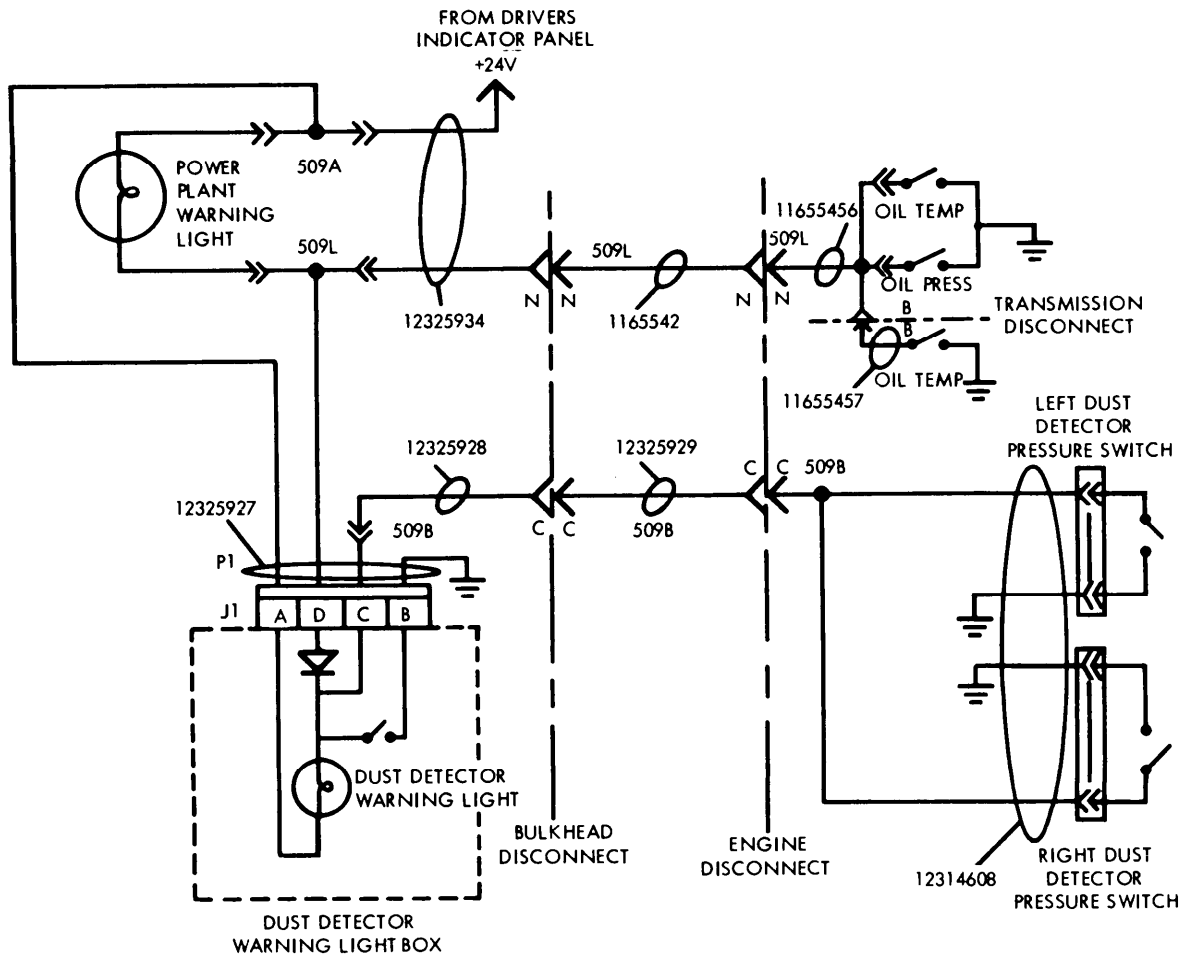

Figure 6-2. Dust detector schematic diagram.
| 9. | POWERPLANT WARNING LIGHT ON, DUST DETECTOR WARNING LIGHT OFF, DUST DETECTOR PRESSURE SWITCH(ES) TRIPPED (FIG. 6-2). | <p>Step 1. Set MASTER BATTERY switch to ON.</p> <p>Step 2. Press DUST DETECTOR WARNING LIGHT lamp to test.</p> <p>a. If light comes on, replace dust detector warning light box (para. 6-17g, M60A3; 6-17h, M728; 6-17i, M48A5AVLB, M60A1AVLB).</p> <p>b. If lamp does not come on, go to step 3.</p> <p>Step 3. Replace DUST DETECTOR WARNING lamp.</p> <p>a. If lamp operates, discard defective bulb.</p> <p>b. If lamp does not operate, go to step 4.</p> <p>Step 4. Set MASTER BATTERY switch to OFF.</p> <p>Step 5. Disconnect connector P1 of harness 12325927 from dust detector warning light box.</p> <p>Step 6. Set MASTER BATTERY switch to ON. Check for 24 vdc between pins A and B of connector P1.</p> <p>a. If 24 vdc exists, replace dust detector warning light box (para. 6-17g, M60A3; 6-17h, M728; 6-17i, M48A5AVLB, M60A1AVLB).</p> <p>b. If 24 vdc does not exist, replace dust detector warning light wiring harness 12325927 (para 6-17f).</p> |
| 10. | DUST DETECTOR PRESSURE SWITCH(ES) TRIPPED, BUT DUST DETECTOR WARNING LIGHT AND POWERPLANT WARNING LIGHT DO NOT COME ON (FIG. 6-2). | <p>Step 1. Set MASTER BATTERY switch to OFF.</p> <p>Step 2. Disconnect leads of engine wiring harness 12314608 (circuit 509B) from right and left dust detector pressure switches. Check continuity across terminals of each pressure switch connector.</p> <p>a. If continuity across terminals does not exist, replace pressure switch (para. 6-17b).</p> <p>b. If continuity across terminals does exist, check continuity from connector pin B to ground lead of harness 12314608.</p> <p>c. If ground lead continuity does not exist, replace harness 12314608 (para. 6-17C).</p> <p>d. If ground lead continuity exists, check continuity of engine wiring harness 12314608 (circuit 509B) from pin C of engine connector to pin A of pressure switch connector.</p> |
| 10. DUST DETECTOR PRESSURE SWITCH(ES) TRIPPED, BUT DUST DETECTOR WARNING LIGHT AND POWERPLANT WARNING LIGHT DO NOT COME ON (FIG. 6-2) - Continued | | <ul style="list-style-type: none"> e. If continuity does not exist through engine wiring harness 12314608, replace harness (para. 6-17c). f. If continuity exists through engine wiring harness 12314608, check continuity through engine-to-bulkhead lead 12325929 (circuit 509B) from engine connector socket C to bulkhead connector pin C. g. If continuity does not exist, replace engine to bulkhead lead assembly 12325929 (circuit 509B (para. 6-17d). h. If continuity exists through engine-to-bulkhead lead 12325929, disconnect hull intermediate lead assembly 12325928 (circuit 509B) from short lead of dust detector warning light harness at dust detector warning light box. Check continuity through lead 12325928 from pin C at bulkhead to short lead connector. i. If continuity does not exist, replace hull intermediate lead 12325928 (circuit 509B (para. 6-17e). j. If continuity exists through hull intermediate lead, go to step 3. <p>Step 3. Disconnect connector P1 of harness 12325927 from dust detector warning light box. Check continuity through circuit 509B of harness 12325927.</p> <ul style="list-style-type: none"> a. If continuity exists, replace dust detector warning light box (para. 6-17g, M60A3; 6-17h, M728; 6-17i, M48A5AVLB, M60A1AVLB). b. If continuity does not exist replace dust detector warning light harness 12325927 (para 6-17f). |
| 11. POWERPLANT WARNING LIGHT ON, DUST DETECTOR WARNING LIGHT ON, BUT DUST DETECTOR PRESSURE SWITCH(ES) NOT TRIPPED (FIG. 6-2). | | <p>Step 1. Set MASTER BATTERY switch to OFF.</p> <p>Step 2. Disconnect leads of engine wiring harness 12314608 (circuit 509B) from right and left dust detector pressure switches. Check continuity across terminals of each pressure switch connector.</p> <ul style="list-style-type: none"> a. If continuity across terminals exists, replace pressure switch (para. 6-17b). b. If continuity does not exist, go to step 3. <p>Step 3. Disconnect connector of engine wiring harness 12314608 (circuit 509B) at engine disconnect. Check harness 12314608 (circuit 509B) at engine disconnect by checking continuity to all other connector pins and to connector shells.</p> <ul style="list-style-type: none"> a. If continuity exists, replace engine wiring harness 12314608 (para. 6-17c). b. If continuity does not exist, go to step 4. |
| 11. POWERPLANT WARNING LIGHT ON, DUST DETECTOR WARNING LIGHT ON, BUT DUST DETECTOR PRESSURE SWITCH(ES) NOT TRIPPED (FIG. 6-2) - Continued. | Step 4. | Disconnect connectors of engine to bulkhead lead assembly 12325929 at engine disconnect and at bulkhead disconnect. Check lead assembly circuit 509B by checking continuity to all other connector pins, connector sheels, and groun. a. If continuity exists, replace engine to bulkhead lead assembly 12325929 (para 6-17d). b. If continuity does not exist, go to step 5. |